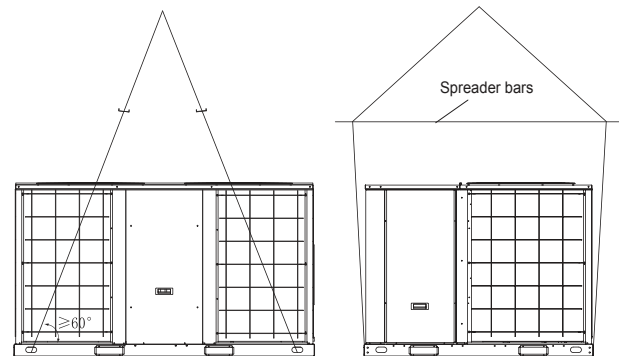

Fig.5-1
- Rigging cables should have adequate capability to resist 3 times weight of unit. Before lift, please check and ensure that hooks are holding tightly to unit and lifting angles are no less than 60°. (See Fig. 5-1)